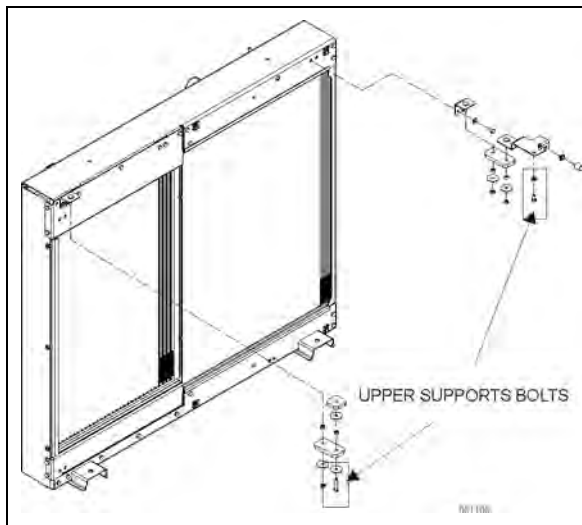

FIGURE 38: UPPER SUPPORTS MOUNTING BOLTS
18. Unscrew the two upper supports from the vehicle structure so they will be removed with the cooling assembly (Figure 38).